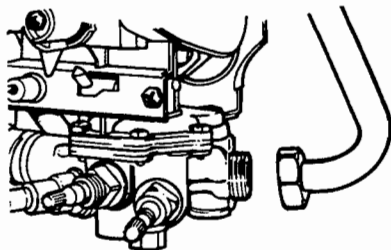

Fig. 16
a) Remove the right hand heating body leg from the water section and remove the venturi by unscrewing. Clean or replace as necessary (see fig. 16).